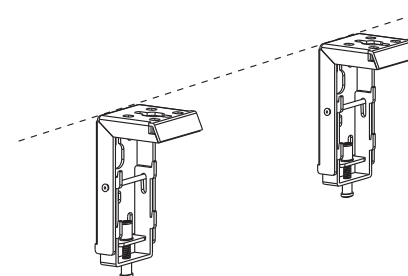

Figure 1
2. Mount the brackets onto the wall, assuring they are at the horizontal level. (Tips: draw an erasable level line when mounting the brackets) (Figure 1) Here below are the details: